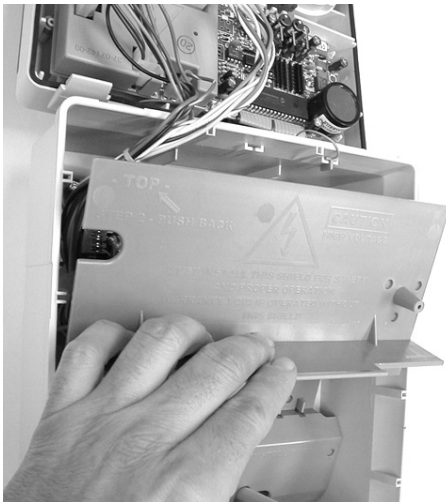

Figure 1
- 2.0 As shown in Figure 1, remove the internal partition by leaning it outward at the top and lifting out of the housing. Mind the wiring harness that passes through the notch in the partition.